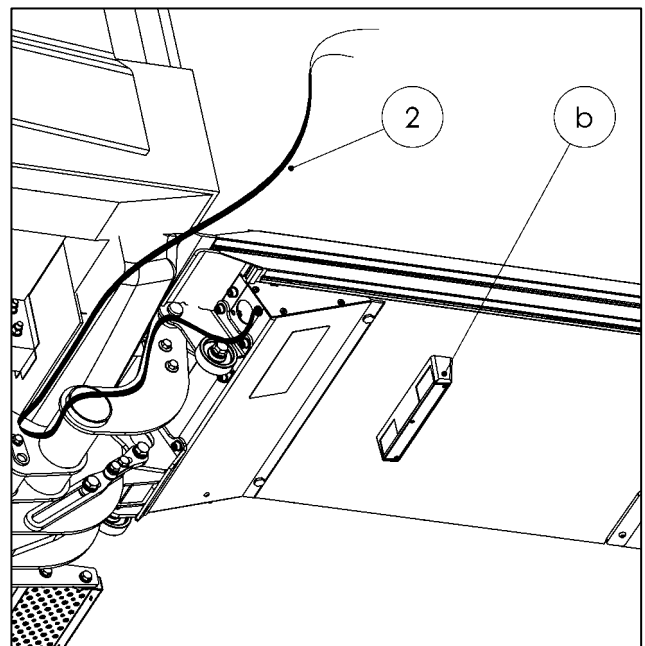

Fig. 64
- Route the license plate light cable (2) (cable outlet from platform's aluminum torsion box) along the closing arm (see Fig. 64).